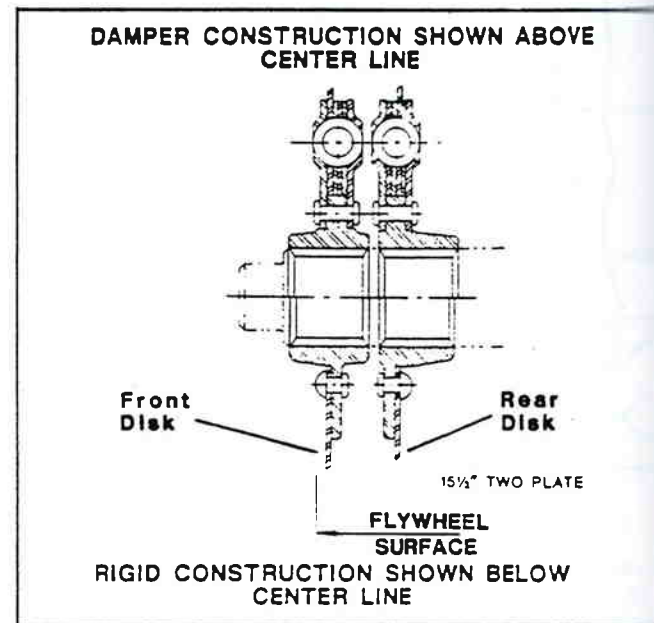

Figure 5-32. Clutch Plate Construction.
3. Place intermediate plate in clutch cover assembly. Align driving lug of plate with slots provided. Assemble front disc on tool. See Figure 5-32 for proper location of driven discs.